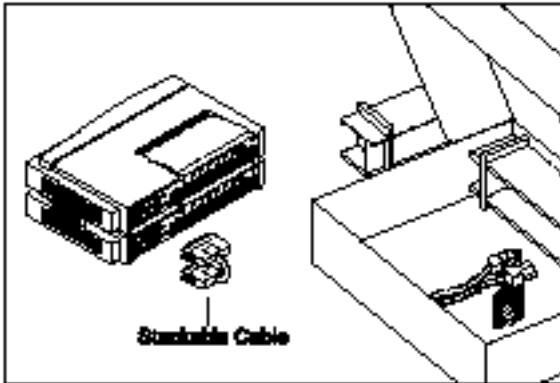

Figure 2-8 Connect hubs by stacking cable
2.2.3 Get the stackable cable and connect the cable to the stacking connector on the hub, as shown in *Figure 2-8*. Connect "Down" SCSI port of the upper hub to "Up" SCSI port of the lower hub. Any loose connection of the stackable cable will cause problems with network performance and quality.